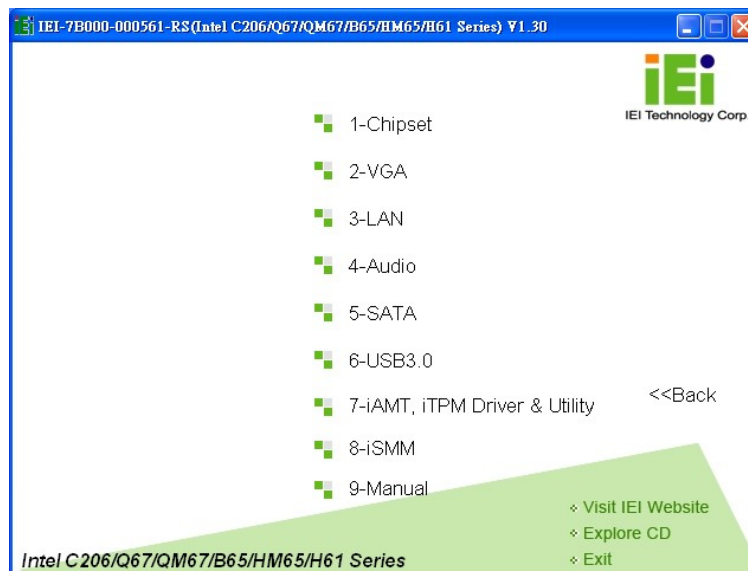

Figure 4-18: Available Drivers
Step 4: A new screen with a list of available drivers appears (Figure 4-18).